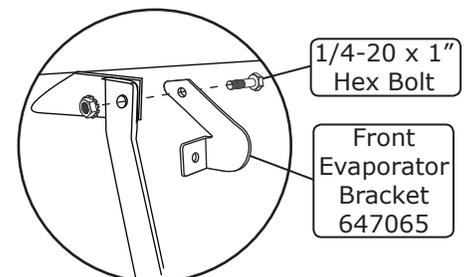

Figure 14a
2. Using a 1/4-20 x 1" hex bolt, flat washer, and a 1/4" nut with star washer, secure the front evaporator mounting bracket between the dash bracket and cowl bracket (See Figure 14a, below).